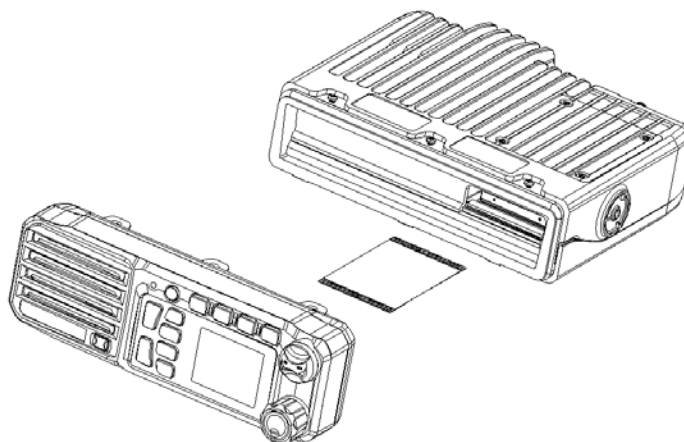

Figure 5.2
- (2) Remove the front panel from the main body;
- (3) Disconnect the FPC as per figure 5.2.